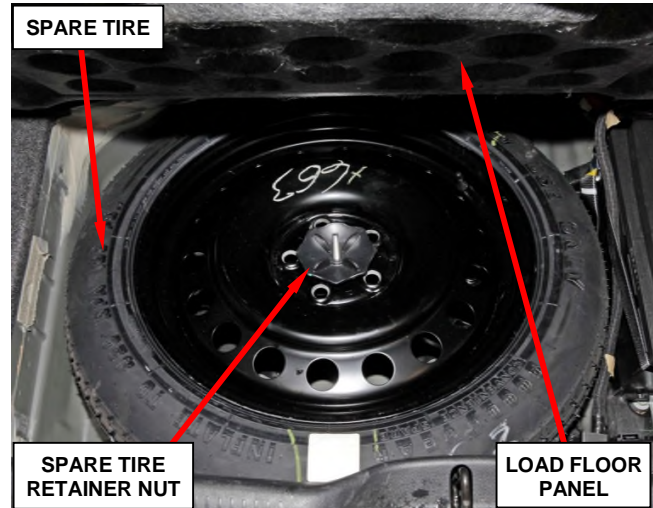

Figure 1 – Compact Spare Tire
2. If equipped with a compact spare tire, raise the load floor panel (Figure 1).
3. Remove and save the spare tire retainer nut (Figure 1 or 2).
5. Remove and save the spare tire (Figure 1 or 2).
11. Install the spare tire (Figure 1 or 2).
13. Install the spare tire retainer nut (Figure 1 or 2).
14. **If equipped with a compact spare tire**, lower the load floor panel (Figure 1).